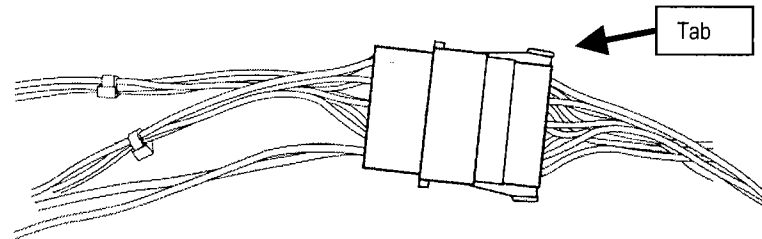

Figure 3.4 Large white Molex battery disconnect
2. Remove the (4) Phillips pan-head screws in the battery tray.
4. Disconnect the batteries from the white Molex DC power connector (see figure 3.4)